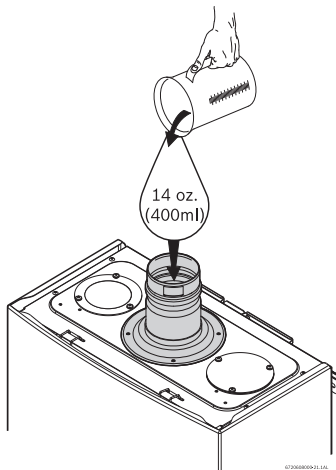

Fig. 30 Filling the condensate trap at start up
- Fill the condensate trap by pouring approx.14 oz. (400ml) of water into the exhaust accessory on the top of the appliance, see Fig. 30.